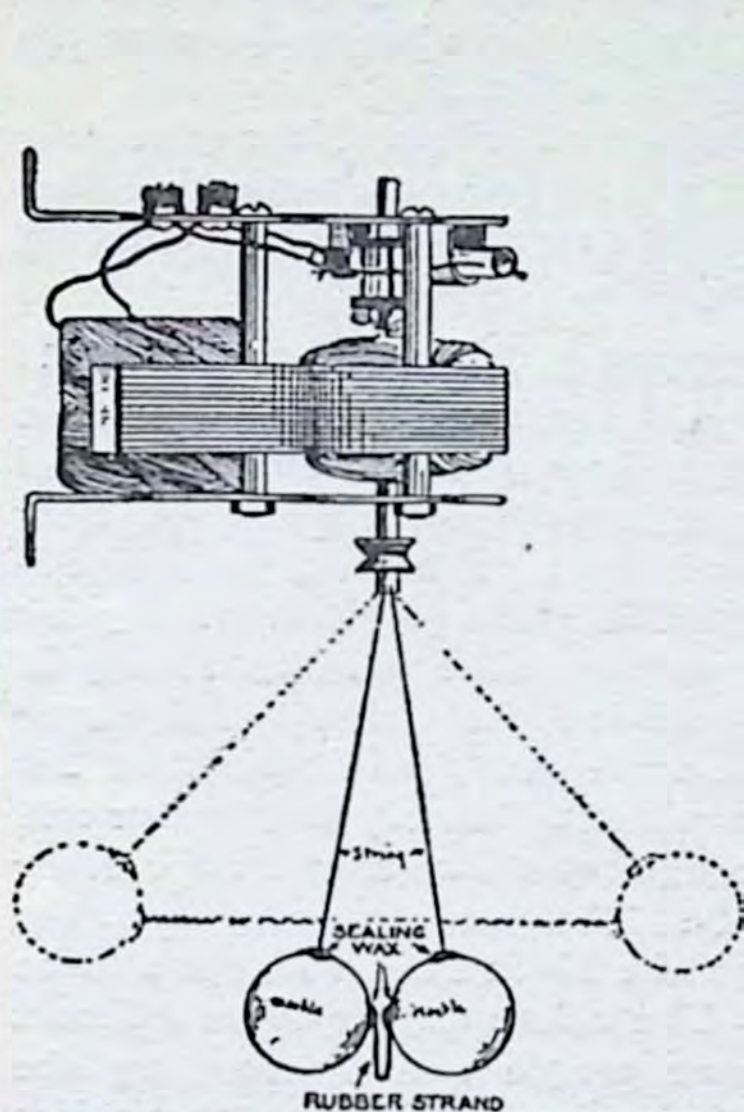

Fig. 30
**(36) HOW A STEAM ENGINE GOVERNOR WORKS:** Stick the ends of two strings to two marbles with a bit of sealing wax and then fasten the ends of a thin rubber band, which you have cut in two, to the marbles with sealing wax, as shown in Fig. 30. Tie the free ends of the strings to the end of the motor shaft and start up your motor. When the motor is not running, the marbles will, of course, hang down, but when they begin to rotate they will rise against the action of the rubber strand.